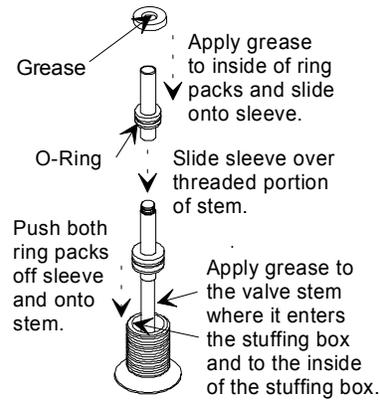
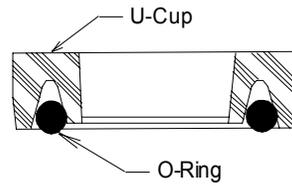

Figure 3: Installing Ring Packs
Figure 4: Ring Pack Packing
5. Refer to Figure 3. Be sure that the O-rings are already positioned in the U-cups (Figure 4) before applying grease. Apply a small amount of grease to the inside circumference of the ring packs ③, to the inside wall of the stuffing box, and on the valve stem where it enters the stuffing box.
6. Refer to Figure 3. Slide the two ring packs ③ onto the sleeve, O-ring side down. Slide the sleeve over the threaded portion of the stem. Push both of the ring packs off the sleeve onto the stem and remove the sleeve.